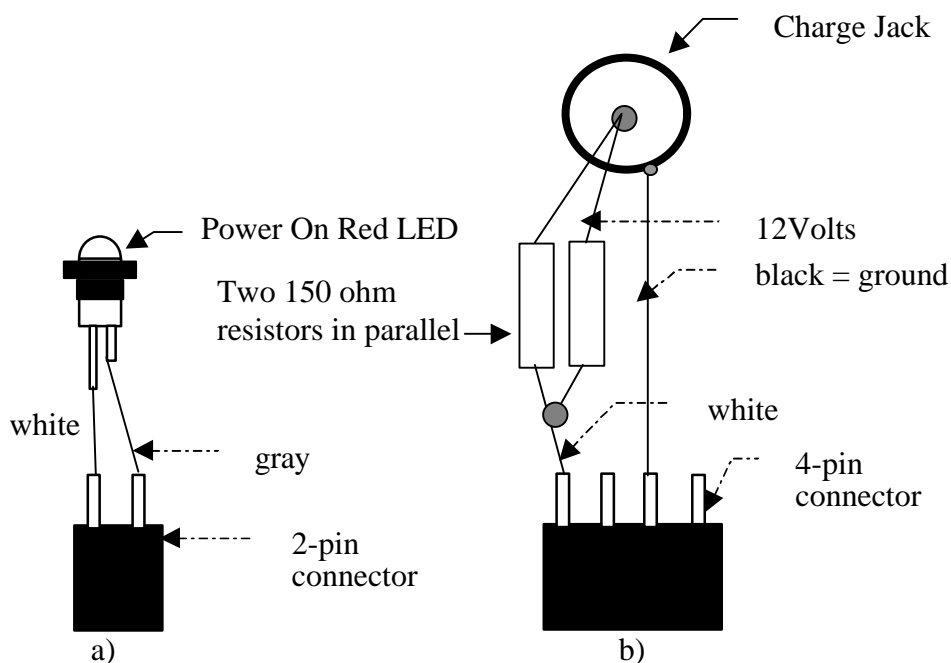

Figure 20 Cabling for a) the power-On Red LED and b) the recharge jack with power limiting series resistors.
3. Wire the Red LED power-on indicator as illustrated in Figure 20 a). Cut length of cable to 4 inches.
4. Cable the recharge jack as shown in in Figure 20 b). Cut wire to 6.5 inches. Wire two 150 ohm resistors in parallel by twisting and soldering their leads together at both ends. Solder one end of the parallel resistors to the external pin of the recharge jack that electrically connects to the pin inside the jack. and the other end to a white wire. Solder the black (ground wire) to the external pin on the jack that electrically connects to the inside surface of the jack..